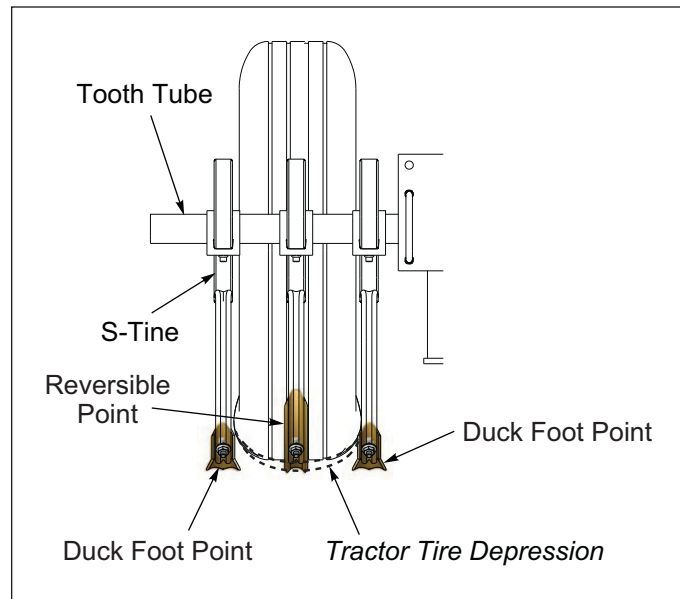

Figure 2-78: S-Tine Point Position
4. Assemble the Points to the S-Tines. The suggested pattern is to assemble the Reversible Point onto the center S-Tine and a Duck Foot Point on the S-Tine on either side of the center S-Tine with 3/8-16 x 1-3/4 Plow Bolt and Flange Locknut. **See Figure 2-78.**